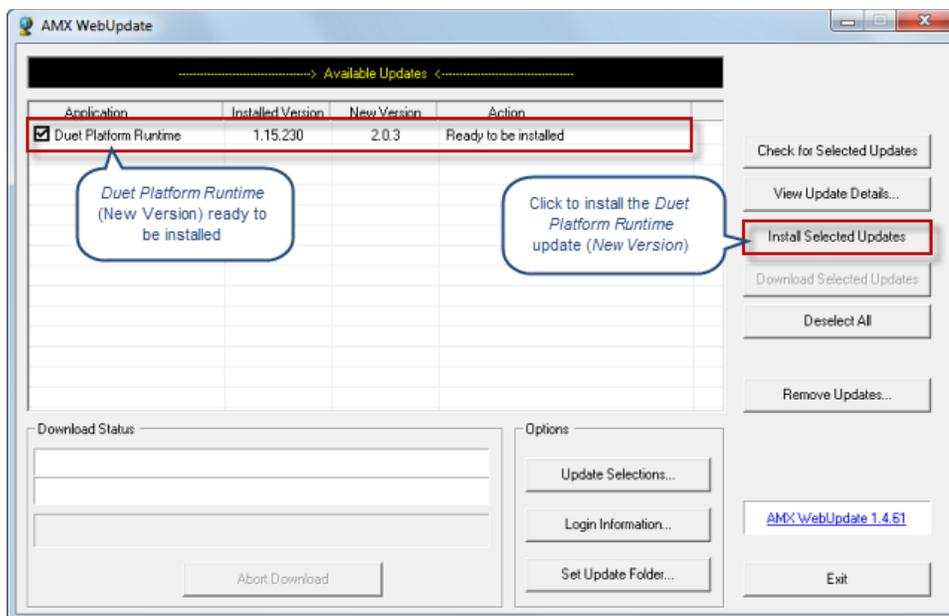

FIG. 97 WebUpdate - Duet Platform Runtime selected for installation
- When the download is complete, click **Install Selected Updates** to install the *Duet Platform Runtime* update (FIG. 97):